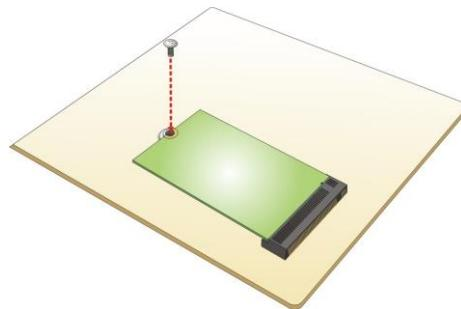

Figure 3-3: Securing the M.2 Module
Step 4: Secure the M.2 module with the previously removed retention screw (Figure 3-3).